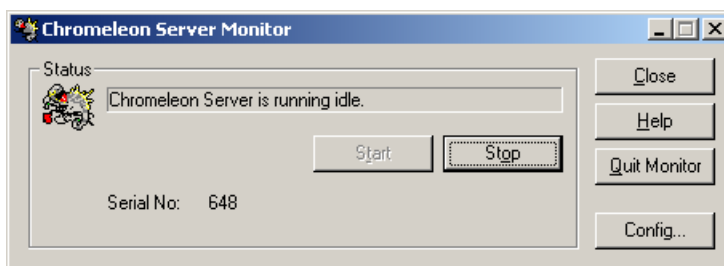

Figure B-8. Server Running
8. Check the Server Monitor status. It should now display “Chromeleon Server is running idle.” (see Figure B-8).